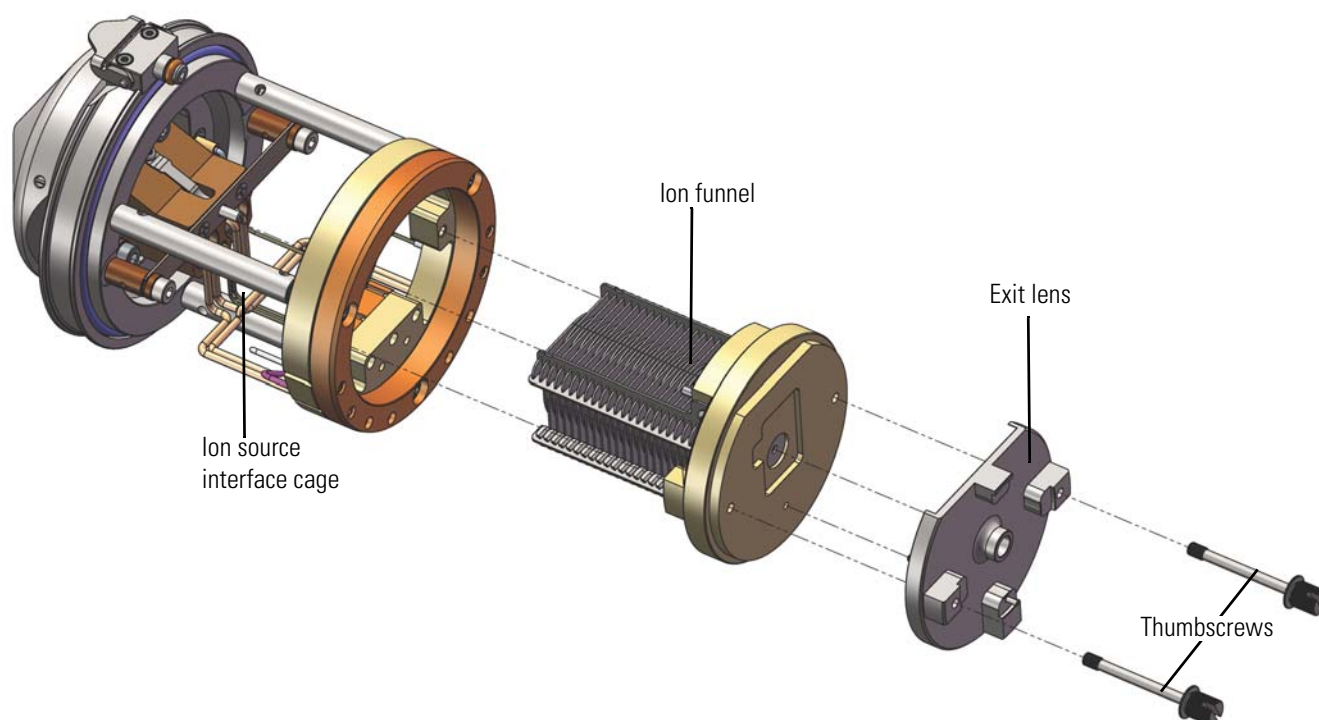

Figure 8-10. Exploded view of the ion source interface cage
3. Loosen and extend the two thumbscrews that secure the ion funnel to the ion source interface cage and the exit lens to the ion funnel (Figure 8-10).
2. Align the lead pin on the exit lens with the lead pin socket on the ion funnel (see Figure 8-10 on page 8-31), and then firmly press the lens until it snaps into place.
4. Orient the ion funnel as shown in Figure 8-10, and then carefully slide it into the API source interface cage.